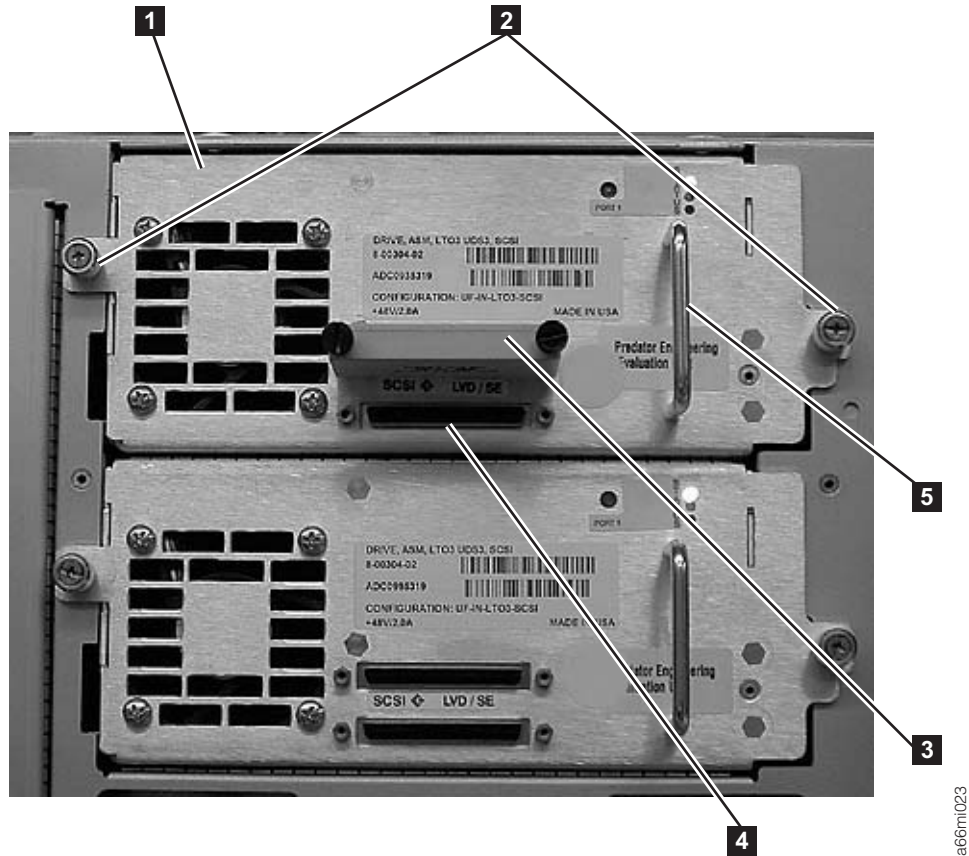

Figure 4-5. SCSI Drive Sled (detail)
1. Loosen the two thumb screws ( **2** in Figure 4-5) that hold the drive sled in place by turning them counterclockwise.
2. To remove the drive sled, grasp the handle ( **5** in Figure 4-5) and slowly pull it toward you, while supporting the drive sled from underneath.